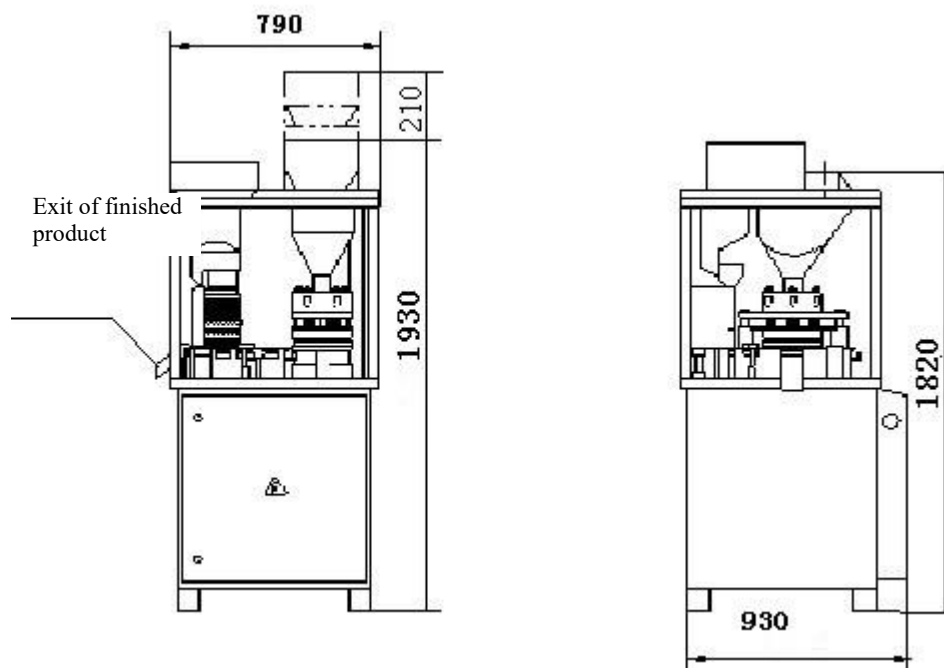

Fig.1 Appearance and Dimensions
**2.1 Dimensions:** 930×790 × 1930 mm (refer to Fig. 1)